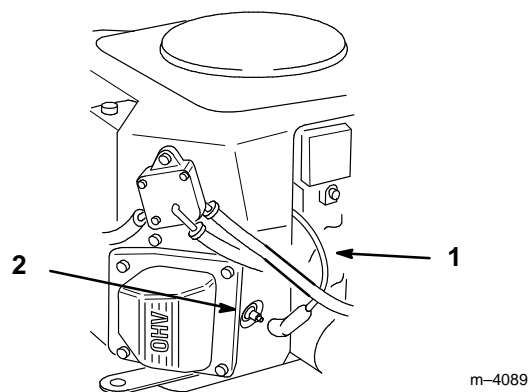

Figure 34
2. Pull the wire(s) off the spark plug(s) (Fig. 34). Now clean around the spark plug(s) to prevent dirt from falling into the engine and potentially causing damage.
3. Push the wire(s) onto the spark plug(s) (Fig. 34).